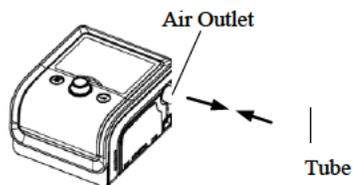
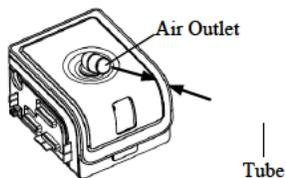

Fig. 12-4
Fig. 12-5
(1) Connect one end of the air hose to the air outlet of the main device, as shown in Fig. 12-4. If the main device is used with a humidifier, connect one end of the air hose to the air outlet of the humidifier, as shown in Fig. 12-5.